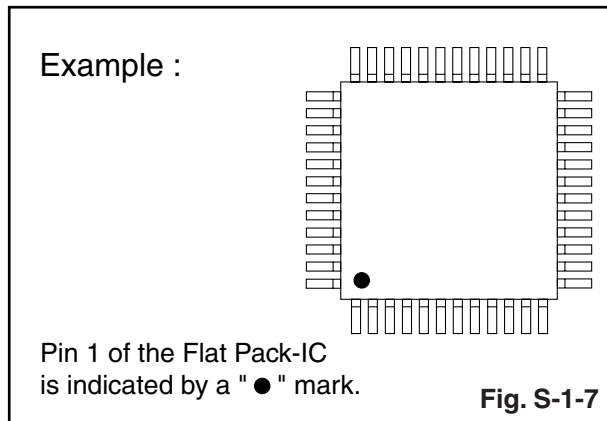
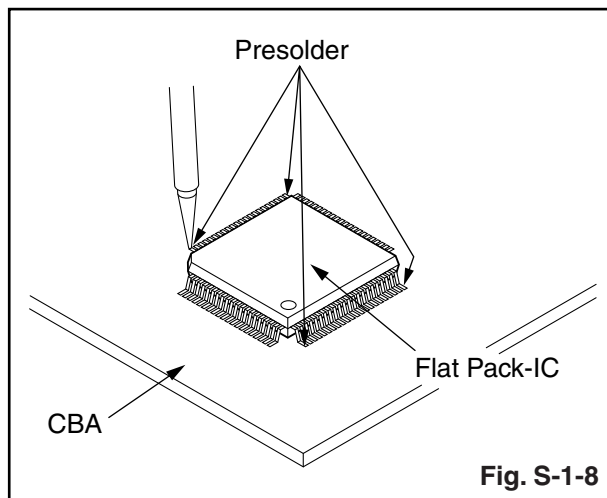

Fig. S-1-7
Fig. S-1-8
- (1) Using desoldering braid, remove the solder from the foil of each pin of the flat pack-IC on the CBA so you can install a replacement flat pack-IC more easily.
- (2) The "●" mark on the flat pack-IC indicates pin 1. (See Fig. S-1-7.) Be sure this mark matches the 1 on the PCB when positioning for installation. Then pre-solder the four corners of the flat pack-IC. (See Fig. S-1-8.)
- (3) Solder all pins of the flat pack-IC. Be sure that none of the pins have solder bridges.